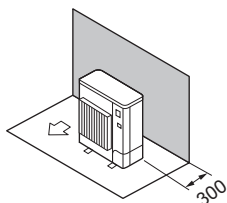

Fig. 1-5
- ① Obstacles at rear only (Fig. 1-5)